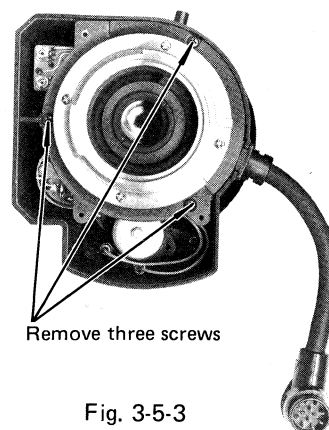

Fig. 3-5-3
- Remove three screws which hold lens mounting assembly and remove the lens mounting assembly. (Fig. 3-5-3)